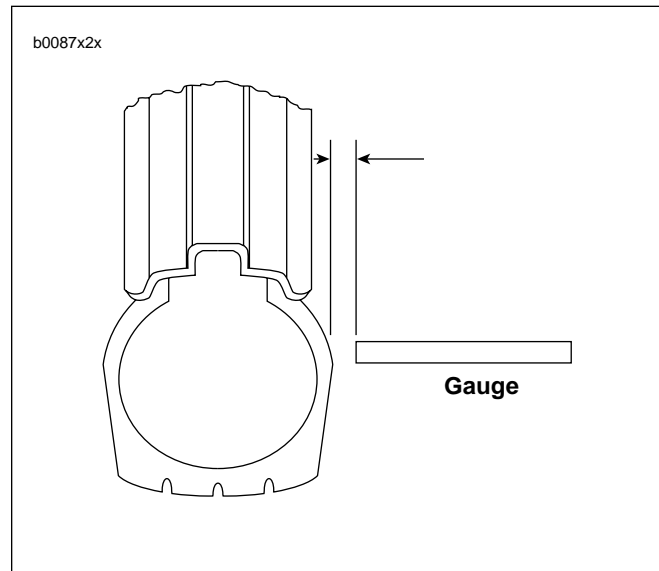

Figure 2-34. Checking Tire Lateral Runout
1. See Figure 2-34. Turn wheel on axle and measure amount of displacement from a fixed point to tire side-wall.